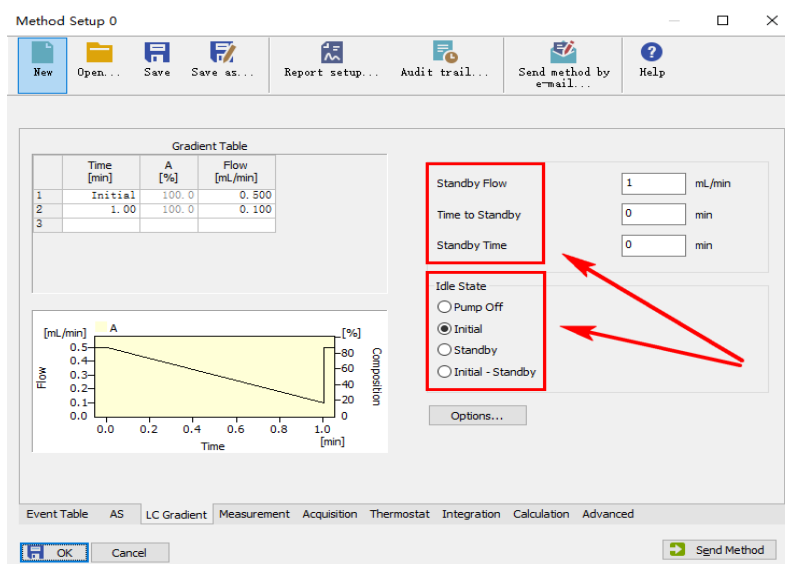

Figure 4-11 Setting the " LC Gradient "
In the " LC Gradient ", can set the time, A, B (C, D) channel solvent percentage and flow rate. Percentage of solvent channel may be modified within the range of 0 to 100, after setting the percentage of channel A, the percentage of B (D) channels of the mobile phase is automatically generated software. The total flow rate of the respective flow channels, can be 0.000 ~ 10.000mL / min, as shown in Figure 4-11.